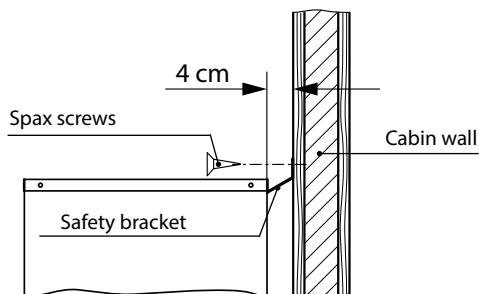
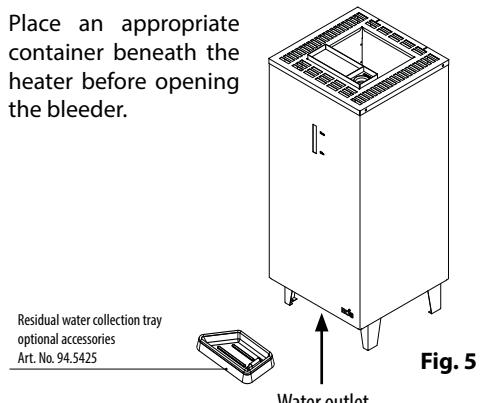

Fig. 3
Fig. 5
- Push the safety bracket under the heater cover in the middle of the reverse side and affix to the cabin wall using the two spax screws (see fig. 3)
Initially select a fixing option according to (Fig. 3 - Fig. 5)